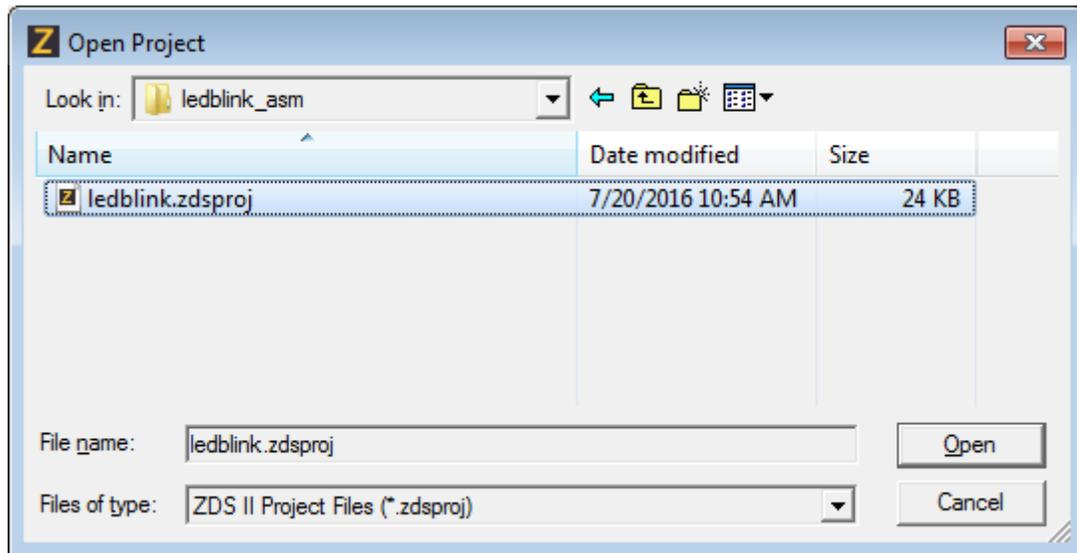

Figure 7. Select the ledblink.zdsproj Project
3. Select the `ledblink.zdsproj` project from within the `ledblink_asm` folder as indicated in Figure 7 and click **Open**. A list of source files will appear in the Work-space panel.